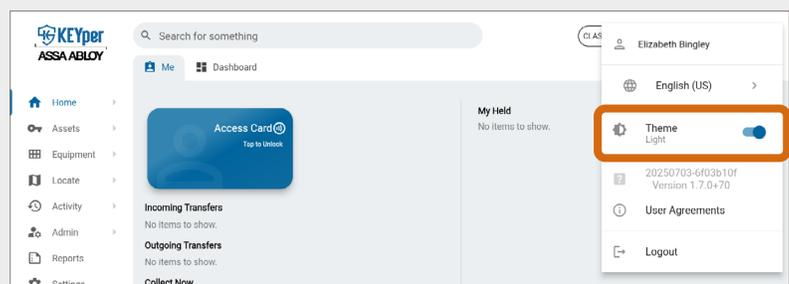

Fig. 137 – Toggle light and dark theme in the Profile menu
2. Select **Profile** , then click or tap to toggle the **Theme**, as shown in Fig. 137.